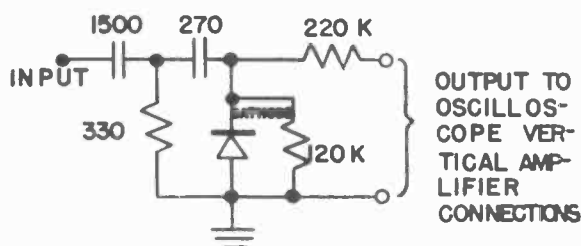

Figure 5
2. Connect the detector input to pin 1 of V7 (See Figure 5).
NOTE: To see the response of any single stage, connect the sweep generator output to the input of the stage to be observed and the input terminal of Figure 5 to the output of the following stage.